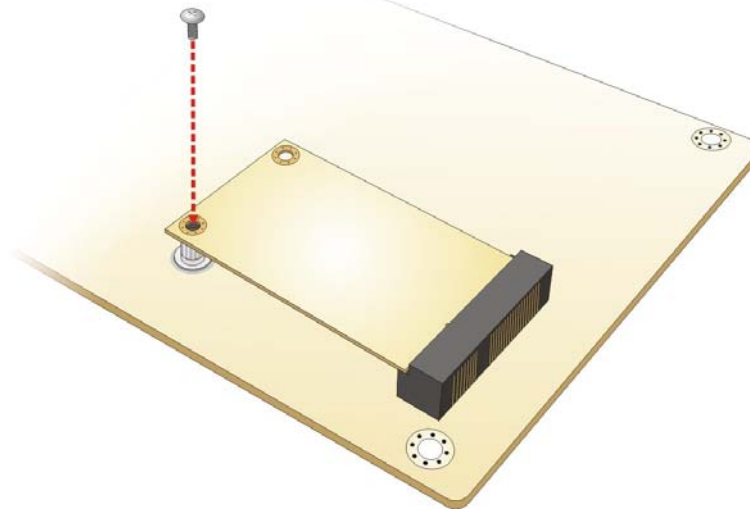

Figure 4-3: Securing the Full-size PCIe Mini Card
Step 4: **Secure the full-size PCIe Mini card.** Secure the full-size PCIe Mini card with the retention screw previously removed (**Figure 4-3**).